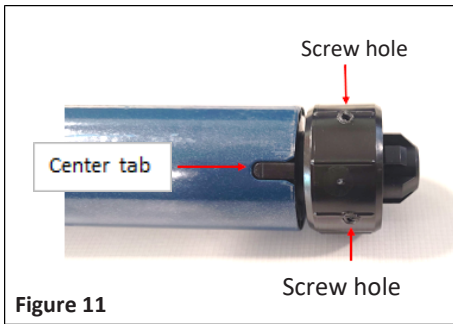

Figure 11
23. Insert the Vinyl Coated Cable located at each end of the Housing Assembly through the guide holes at each end of the EasyShade Drop Down Panel. See Figure 11.
17. Slide the black plastic bushing onto the end of the replacement motor, taking care to align the two small screw holes as shown in **Figure 11**.